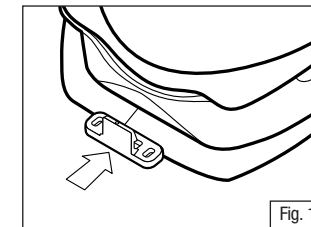

Fig. 1
2. Position the latch on the front jaw surface with the catch facing the wide view frame. Slide the latch forward against the frame so the latch overlaps the rib on the frame. Make sure the center of the latch (circular mark on top of latch) is aligned with the center of the frame. (Fig. 1)